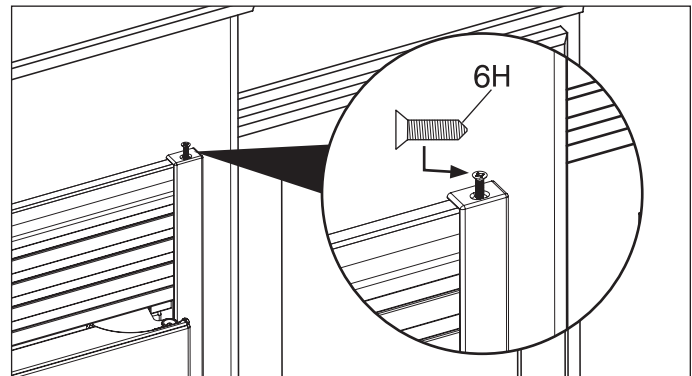

Figure 18
- Fasten screws to top trim. (See Figure 18).